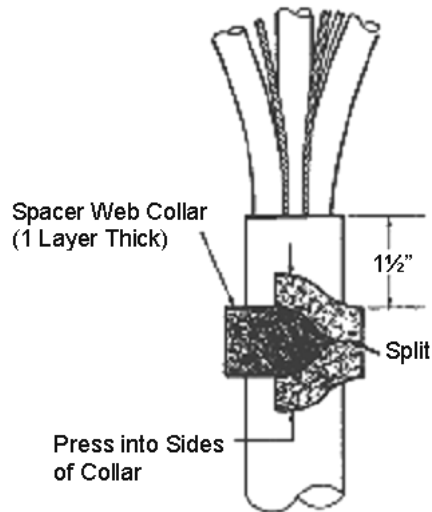

Figure 4
- 3.4. Position spacer web collar 1½" (37 mm) from edge of cable jacket. (Figure 4)
- 3.5. Wrap spacer web 1 ¼ wraps and cut off. Split the ¼ overlap of spacer web and press into sides to hold in place. (Figure 4)